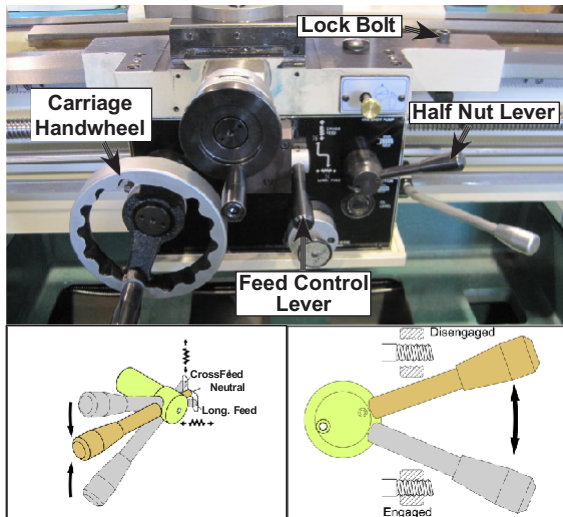

Figure 9. Carriage controls set for moving the carriage.
4. To further balance the load, loosen the carriage lock bolt, disengage the half nut lever, put the feed control lever in neutral, then use the carriage handwheel to move the carriage next to the tailstock. (Figure 9)